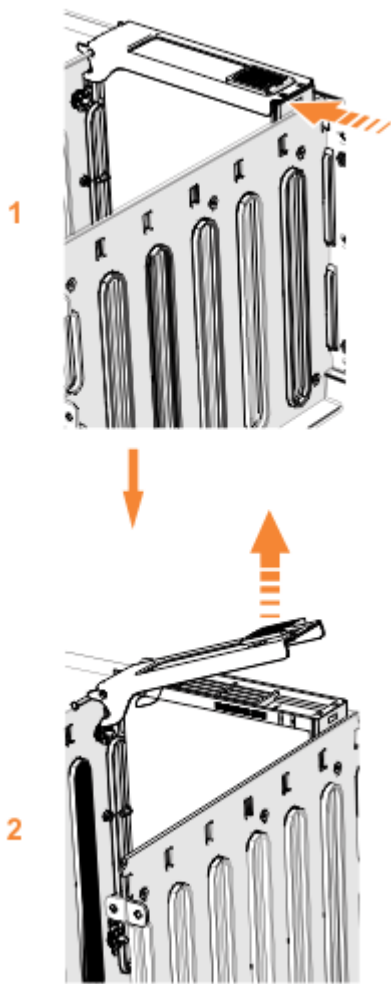

Figure 101. Remove the drive assembly
5. Slide the release latch forward (1), as shown in Figure 101 on page 91.
6. Lift the handle (2) to unlock the drive carrier from the partition, as shown in Figure 101 on page 91. Ensure the toe on the bottom of the latch is fully disengaged.